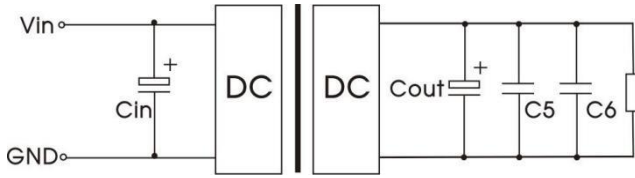

Fig. 2
Note: ①By measuring method is used for Ripple and Noise test, please refer to Fig. 2. for recommended circuit.
All the DC-DC converters of this series are tested before delivery using the recommended circuit shown in Fig. 2.